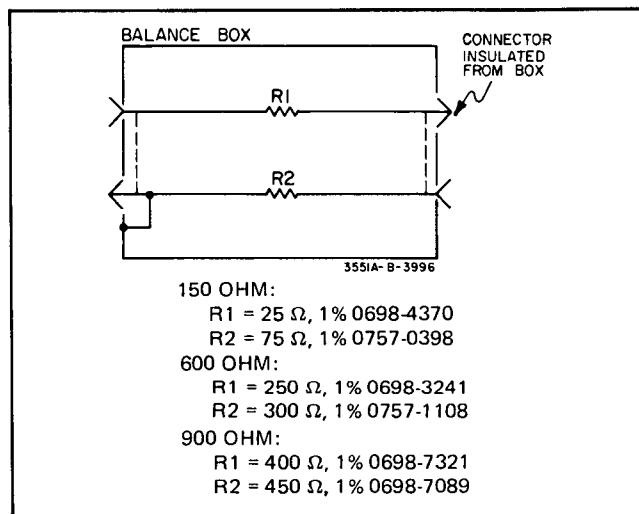

Figure 5-1. Impedance Box.
*Impedance matching networks are required to match the 50 ohm output of the synthesizer used to supply the signals for these performance tests and the Test Set input impedances. Figure 5-1 shows the network configurations for each impedance.*